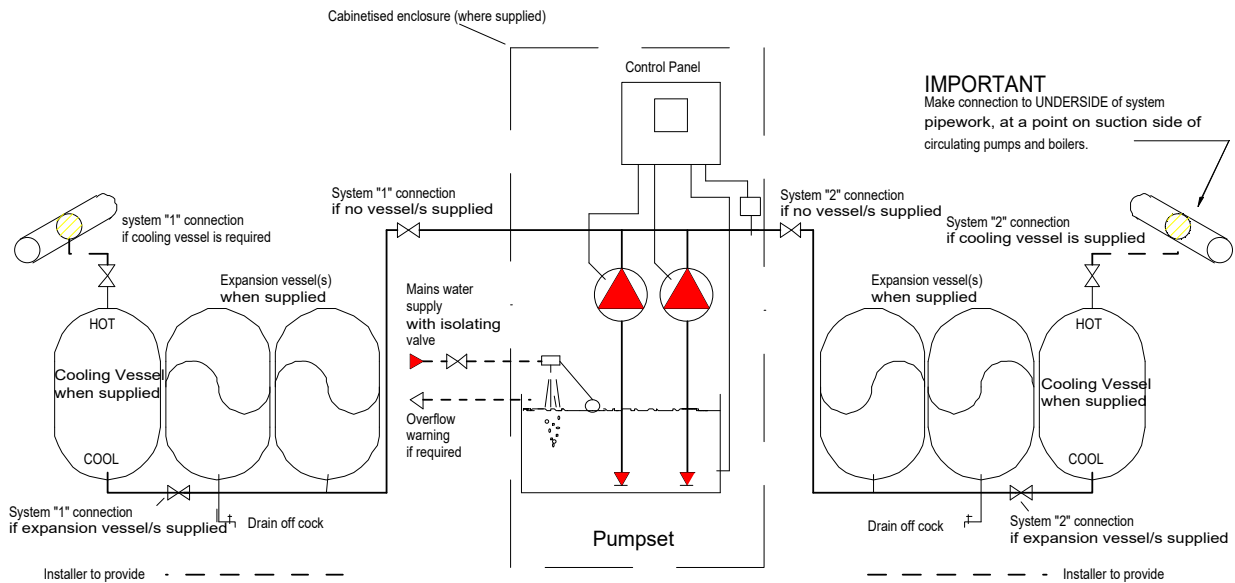

Fig 1.1
- ii. The system connections on the pressurisation unit are two lockshield isolating valves. System 1 on the left hand side and system 2 on the right hand side as shown above in Fig 1.1.